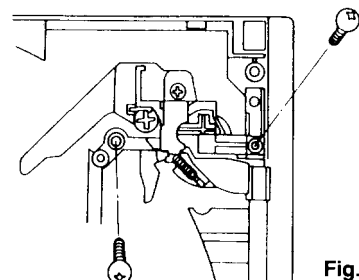

Fig. 10
3. Remove the 2 screws shown in Fig. 10.